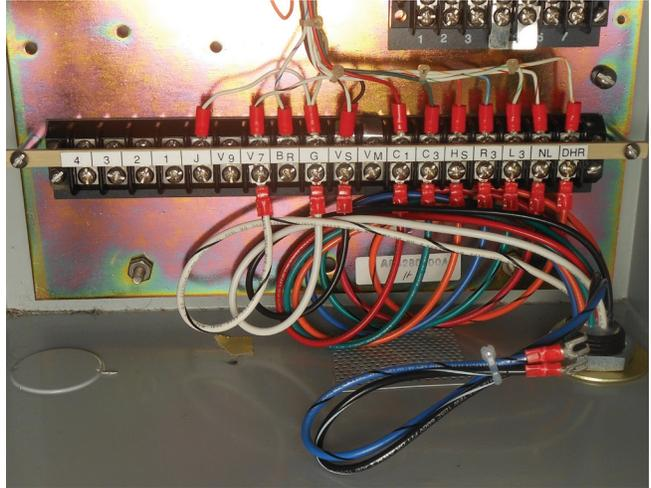

Figure 8. Pigtail wires connected to fanning-strip style terminal board.
A. Fanning strip style connection (Figure 8):